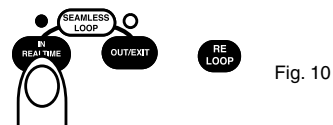
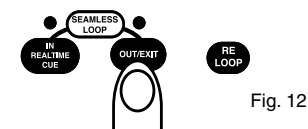

Fig. 10
Fig. 12
B. LCD Display (figure 12)
- 2) When you reach a point in playback that you want to create as your starting point. Press the **IN REAL TIME CUE BUTTON (26)**. This will set the starting point of your SEAMLESS LOOP. The **IN REAL TIME CUE'S BUTTON LED (26)** will begin to glow (Fig 10).
- 3) When you reach the point in playback that will be the ending point for your loop, press **OUT/EXIT BUTTON (28)**. Pressing the **OUT/EXIT BUTTON (28)** will set the ending point of your SEAMLESS LOOP. SEAMLESS LOOP mode will be indicated by the **IN REALTIME CUE (26)** and **OUT/EXIT (28)** LEDs flash repeatedly. The **LOOP INDICATOR (44)** in **LCD DISPLAY (13)** will also flash.
- 5) To exit the SEAMLESS LOOP, press **OUT/EXIT BUTTON (28)**. LEDs will remain on but will stop flash. Music will resume normal play (Fig.12). The LEDs remain on to indicate a loop is in memory and is ready to be recalled.